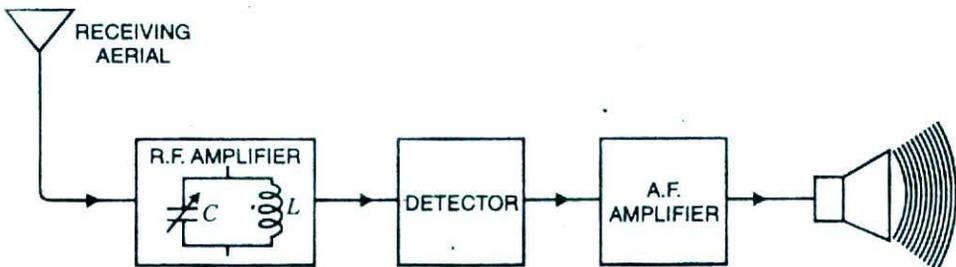

Fig. 18.15
**1. Straight radio receiver.** Fig. 18.15 shows the block diagram of a straight radio receiver. The aerial is receiving radio waves from different broadcasting stations. The desired radio wave is selected by the R.F. amplifier which employs a tuned parallel circuit. The selected radio wave is amplified by the tuned r.f. amplifiers. The amplified radio wave is fed to the detector circuit. This circuit extracts the audio signal from the radio wave. The output of the detector is the audio signal which is amplified by one or more stages of audio-amplification. The amplified audio signal is fed to the speaker for sound reproduction.